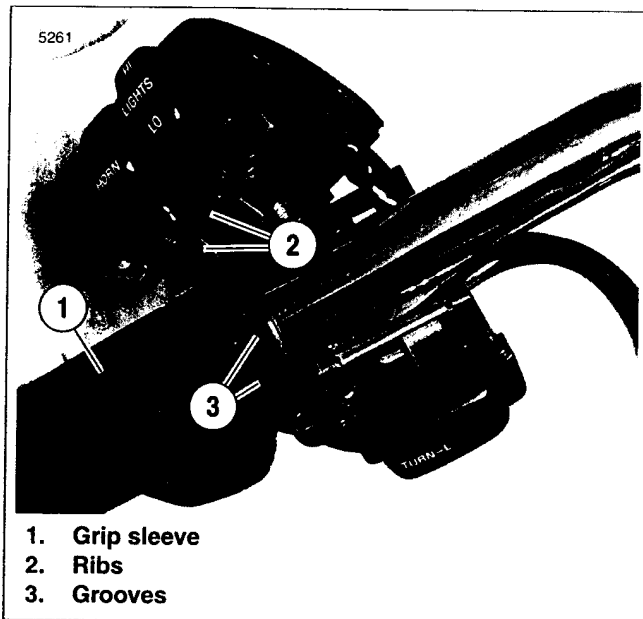

Figure 8-84. Left Handlebar Switch Housings
2. See Figure 8-84. Install upper and lower switch housings on handlebar. Be sure that ribs (2) on outboard side of switch housings fit in grooves (3) molded into grip.